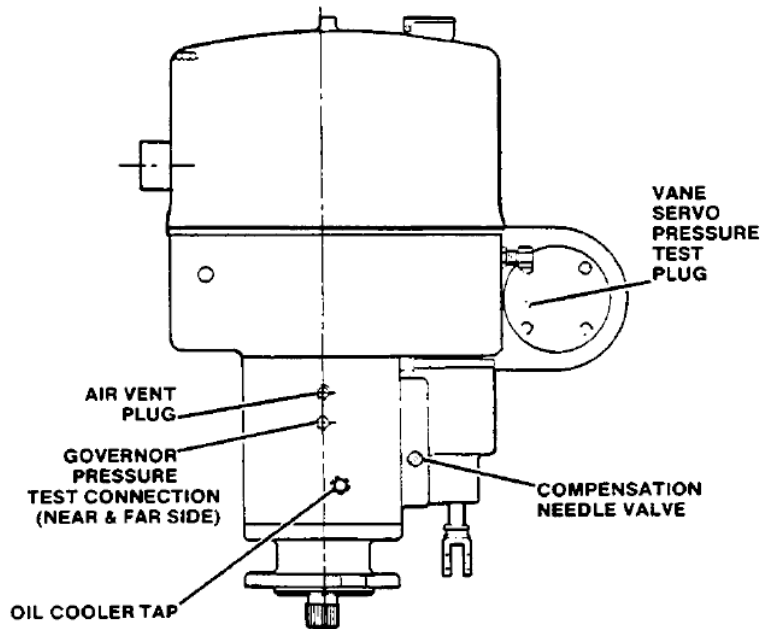

Figure 6-1. PGEV Test (Right-hand Side)
2. Mount governor on test stand. See Figures 6-1, 6-2, and 6-3, and make the following connections:
4. To locate adjustable components, refer to Figures 6-1 through 6-6 below.